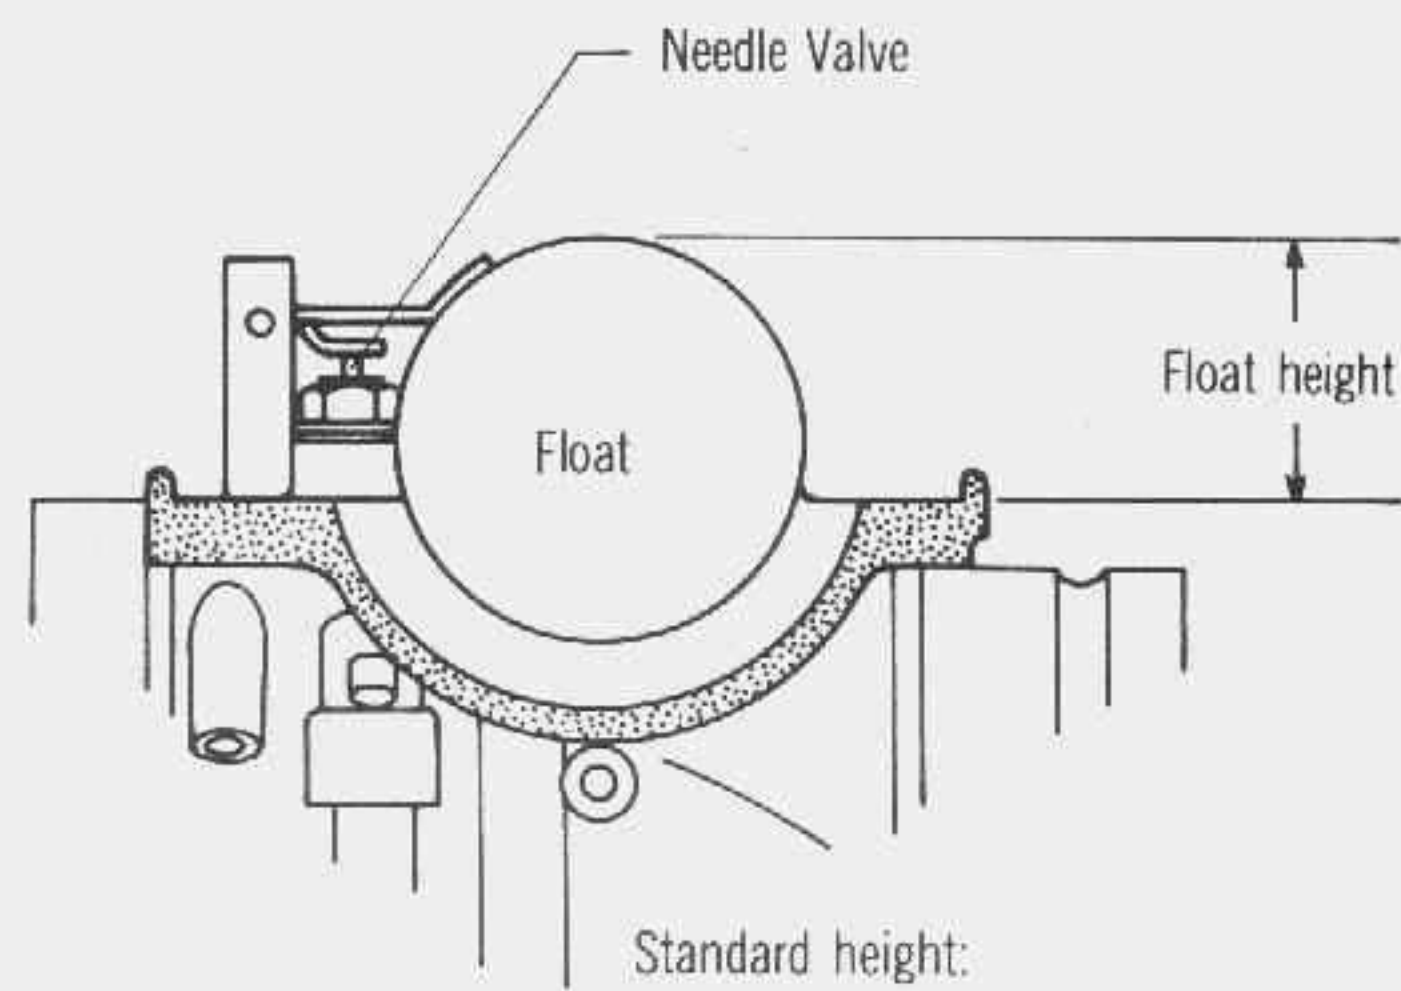

Fig. 6-5-2.
- d) Measure the distance between the float chamber fitted surface and bottom of the float as shown in Fig. 6-5-2.